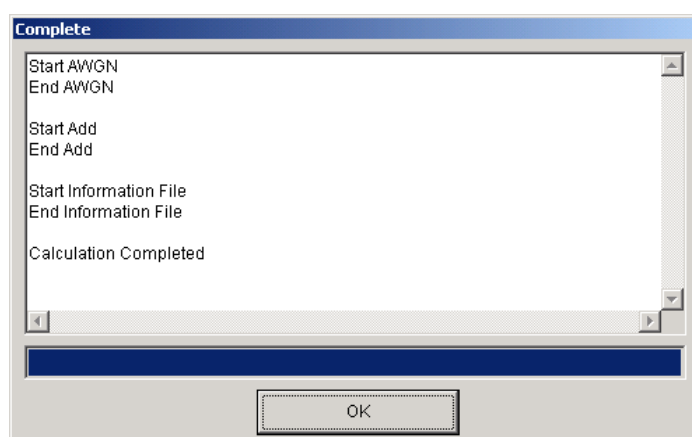

Figure 4.9.3-2 Waveform Generation Dialog Box
5. When waveform pattern generation starts, the waveform generation execution screen shown in Figure 4.9.3-2 appears. When the **Cancel** button at the bottom of the screen is clicked, waveform generation stops and the setting screen are displayed again. After the completion of waveform creation (“Calculation Completed” message is indicated), click the **OK** button to close the AWGN Generator Setting Screen to display the setting screen.